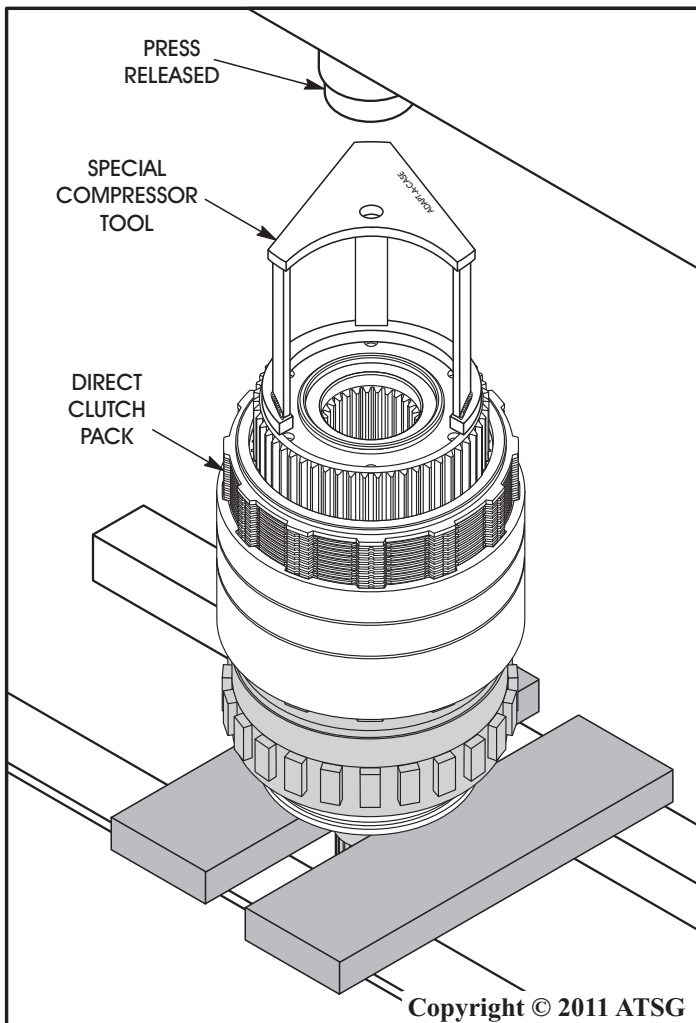

Figure 157
22. Release the press load slowly and completely, as shown in Figure 157.
23. After the press is fully released, remove special compressor tool from hub (See Figure 157).